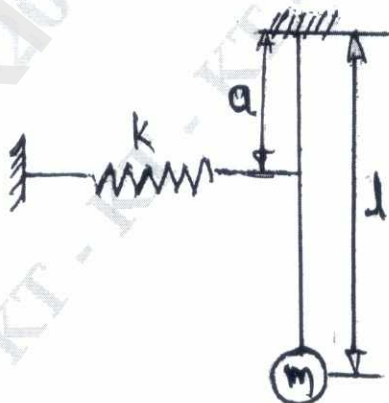

Fig.Q8(b)
b. Neglecting the mass of the rod, determine the natural frequency of the system shown in Fig.Q8(b).